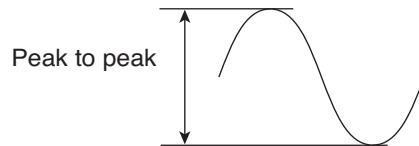

Fig. 3-7
- DESCRIPTION** • The measuring AC current of 165 mA and 500 mA are in terms of peak-to-peak values (see Fig. 3-7). In other words, a current of 165 mA corresponds to an AC current with 82.5 mA_{peak} and -82.5 mA_{peak} (+250 mA_{peak} and -250 mA_{peak} for 500 mA).